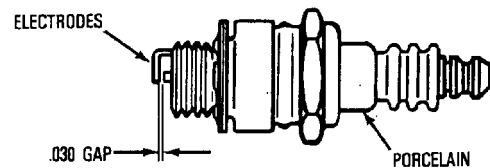

FIGURE 15
- Clean around spark plug. remove and inspect spark plug (Figure 15).